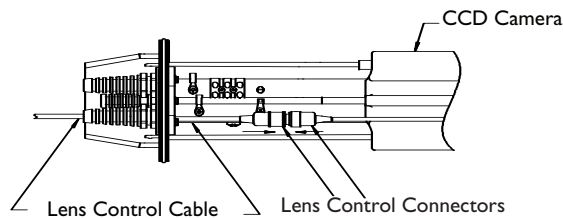

FIGURE 13 Lens Control Cable Wiring
**For installing the zoom lens,** insert the lens control cable with installed flexible fitting in through the fitting on the right rear of the base assembly. Attach the lens wiring to the lens mating connector and connect it to the lens. If mating connector is not available, connect directly to the lens cable. Pull any excess cable through the liquid-tight fitting and tighten the flex fitting to 8.5N-m to 9.0N-m (75in. lb to 80in. lb). This torque rating is approximately 1 to 1 1/2 turns past finger-tight, depending on the size of the wire. Failure to do so will result in water damage to all electronic parts. Use a tie wrap (included) to provide strain relief on the lens control cable at the exit point (inside the unit). See FIGURE 13.